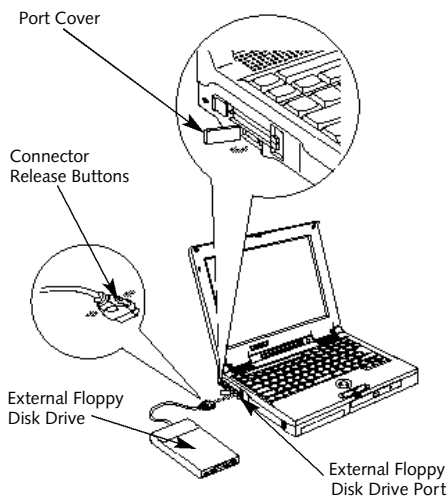

Figure 4-6 External Installation of a Floppy Disk Drive
3. Open the external floppy disk drive port cover on the left side panel of your notebook (Figure 4-6), by gently pulling on the front edge of the cover and swinging it toward the back of your notebook.
4. Align the external floppy disk drive cable with the smaller connector towards the body of your notebook with the wide side of the connector down. (Figure 4-6.)
3. Squeeze the releases on the sides of the external floppy disk drive cable connector together. (The connector is next to the body of your notebook.) *(Figure 4-6.)*